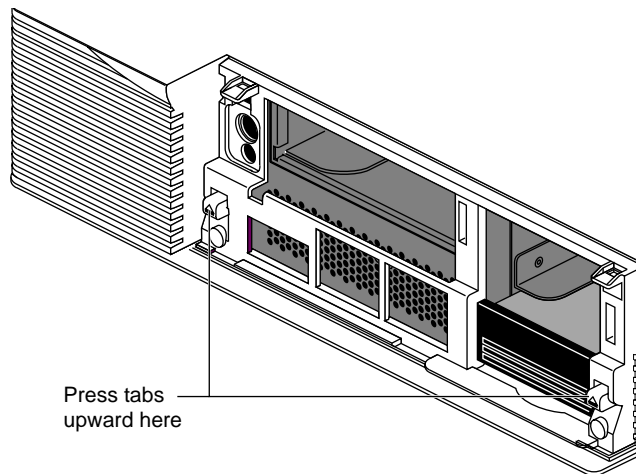

Figure 3-5 Releasing the Top Cover
- Press up on the tabs on each side of the drive openings as shown in Figure 3-5.